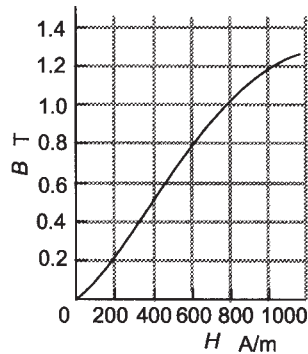

Figure 15.21 *Problem 7*
- 7 Figure 15.21 shows the magnetisation curve for a sample of cast steel. What magnetic field intensity will be required to obtain a flux density of 1.0 T in the cast steel?
- 8 A cast steel ring (magnetisation curve Figure 15.21) has an inner diameter of 120 mm and an external diameter of 200 mm. What m.m.f. is required to produce a flux density of 1.2 T in the core?